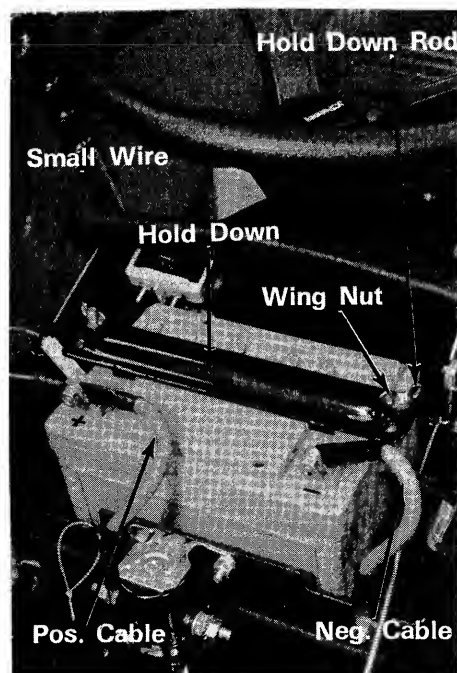

FIGURE 6
5. Hook the hold down rods under the battery case and place the hold down over the manifold of the battery as shown in figure 6.